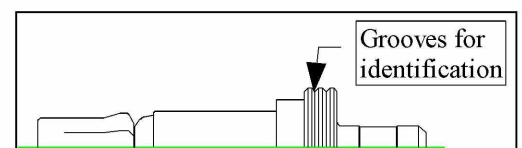

Fig. 38 - Sleeve holder
- The sleeve holder for Super 300 Type Pillar Fitting P Series has dual grooves on its flange (see Fig. 38).